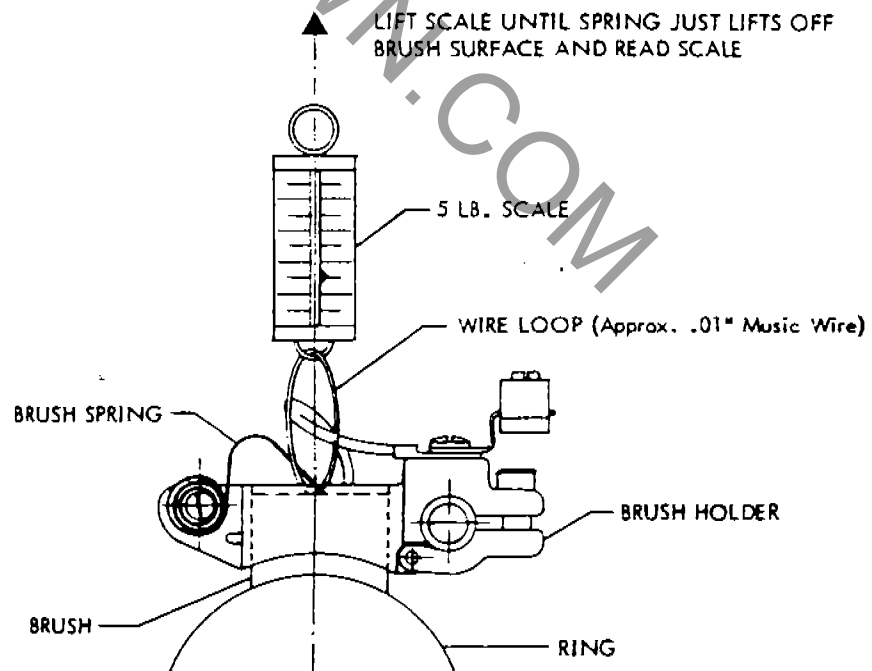

FIGURE 1
- (1) Inspect and test springs for proper tension. The brush tension springs should be set at 1.5-3.0 lbs. per spring and as uniform as possible. Uniform settings for each brush prevent selective action by which certain brushes carry more or less than their share of the load. Insufficient brush pressure can cause loss of contact and overtension can cause excessive brush and ring wear.
- (2) The spring tension should be periodically tested on all brushes to assure uniform brush tension. Test for tension as shown in Figure 1. See paragraph 5(b) for spring tension adjustment.